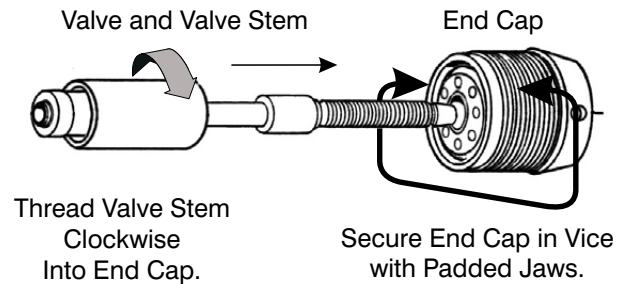

Figure 9-18. Thread Valve Stem into End Cap.
4. Refer to Figure 9-18, and slide the tapered and threaded end of the Valve Stem (8) into the Valve Body Nut (12) in the End Cap. Thread the Stem into and through the End Cap (10).